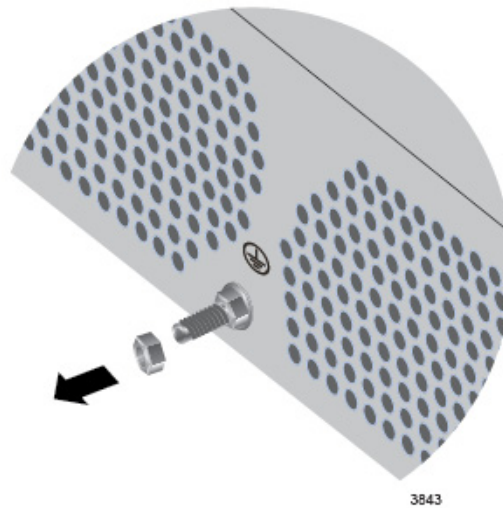

Figure 25. Removing the Nut from the Grounding Post
3. Use a 7mm wrench to remove the top nut from the grounding post on the power supply. Refer to Figure 25.